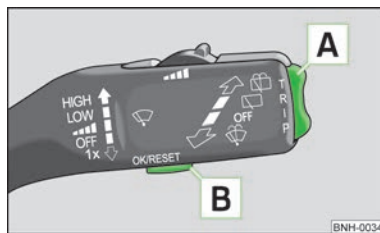

Fig. 6
- Activate the **Main menu** by pressing the rocker switch **A** » Fig. 6 for longer. ▶
- If warning messages are shown in the information display, you need to confirm these messages with the button  » Fig. 6 on page 14 in order to call up the main menu.